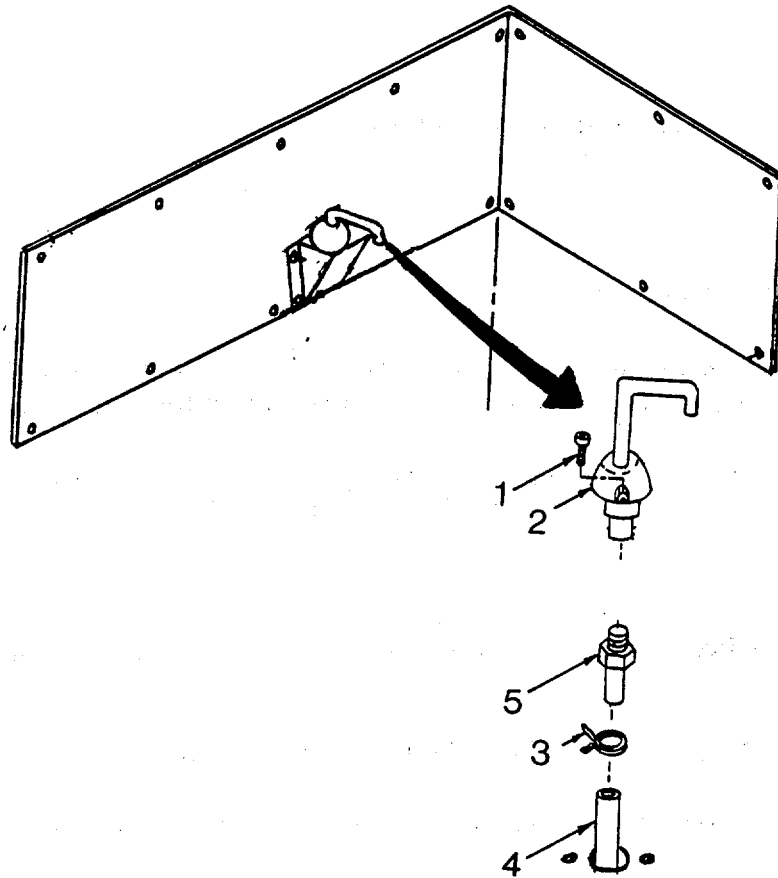

Figure 4-24. Sink Faucet
(2) Replace faucet. (See Figure 4-24.)